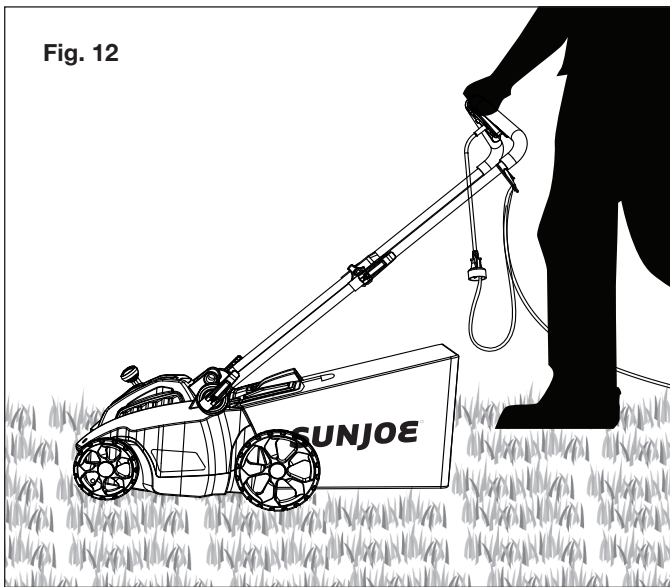

Fig. 12
6. Let the motor get up to speed, gently lowering the lawn mower down into the cutting position and start mowing (Fig. 12).